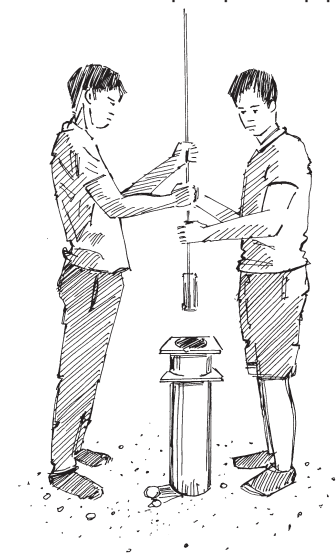

Figure 2.5. Removing the riser pipe
- Remove the handpump and riser pipe from the borehole (Figure 2.5). Check for damage or blockage with silt.